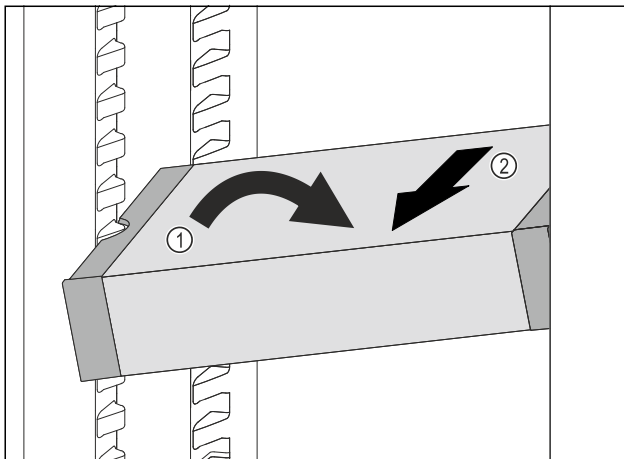

Fig. 63
- Set VarioSafe in refrigerator compartment at an angle. Fig. 63 (1)
- Take VarioSafe out to the front. Fig. 63 (2)